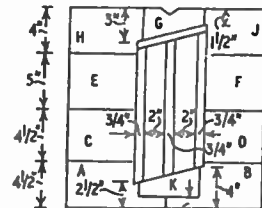

FIG. 3.
The board must be marked out on the face of the cork as shown in Fig. 3. Each section is painted a distinctive colour. The divisions can be clearly defined with thin black lines or with thin tinned copper wire held in place with small staples or bent over pins. The use of wire divisions obviates any doubt regarding the section a dart has struck. The sections can be coloured with paint, or poster inks in bright colours, the stumps and bails mid-brown, the spaces between — light green; section (A) and